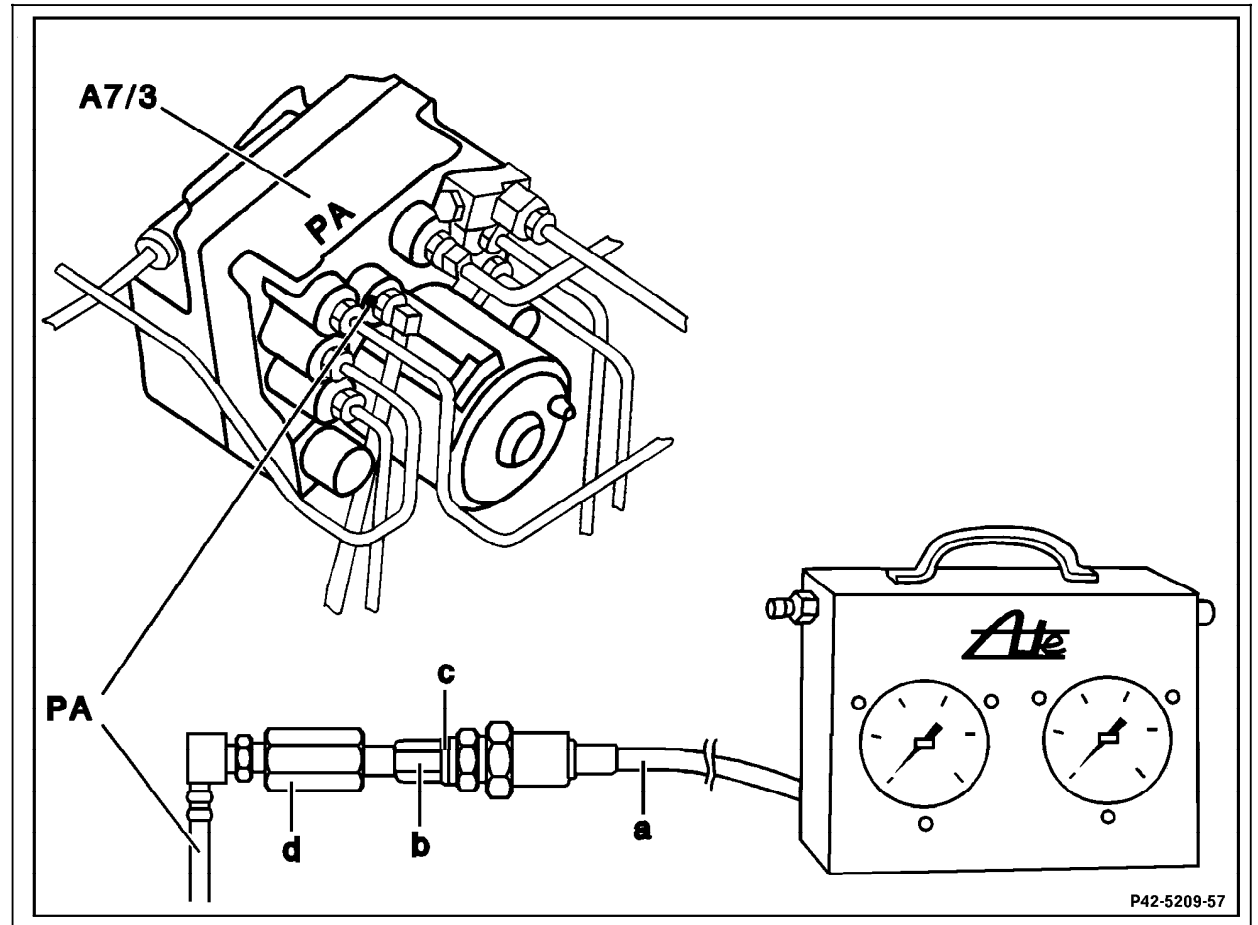

Figure 1
2. Disconnect the hydraulic line "PA" from the hydraulic unit (A7/3) and connect pressure tester to the disconnected line (Figure 1).